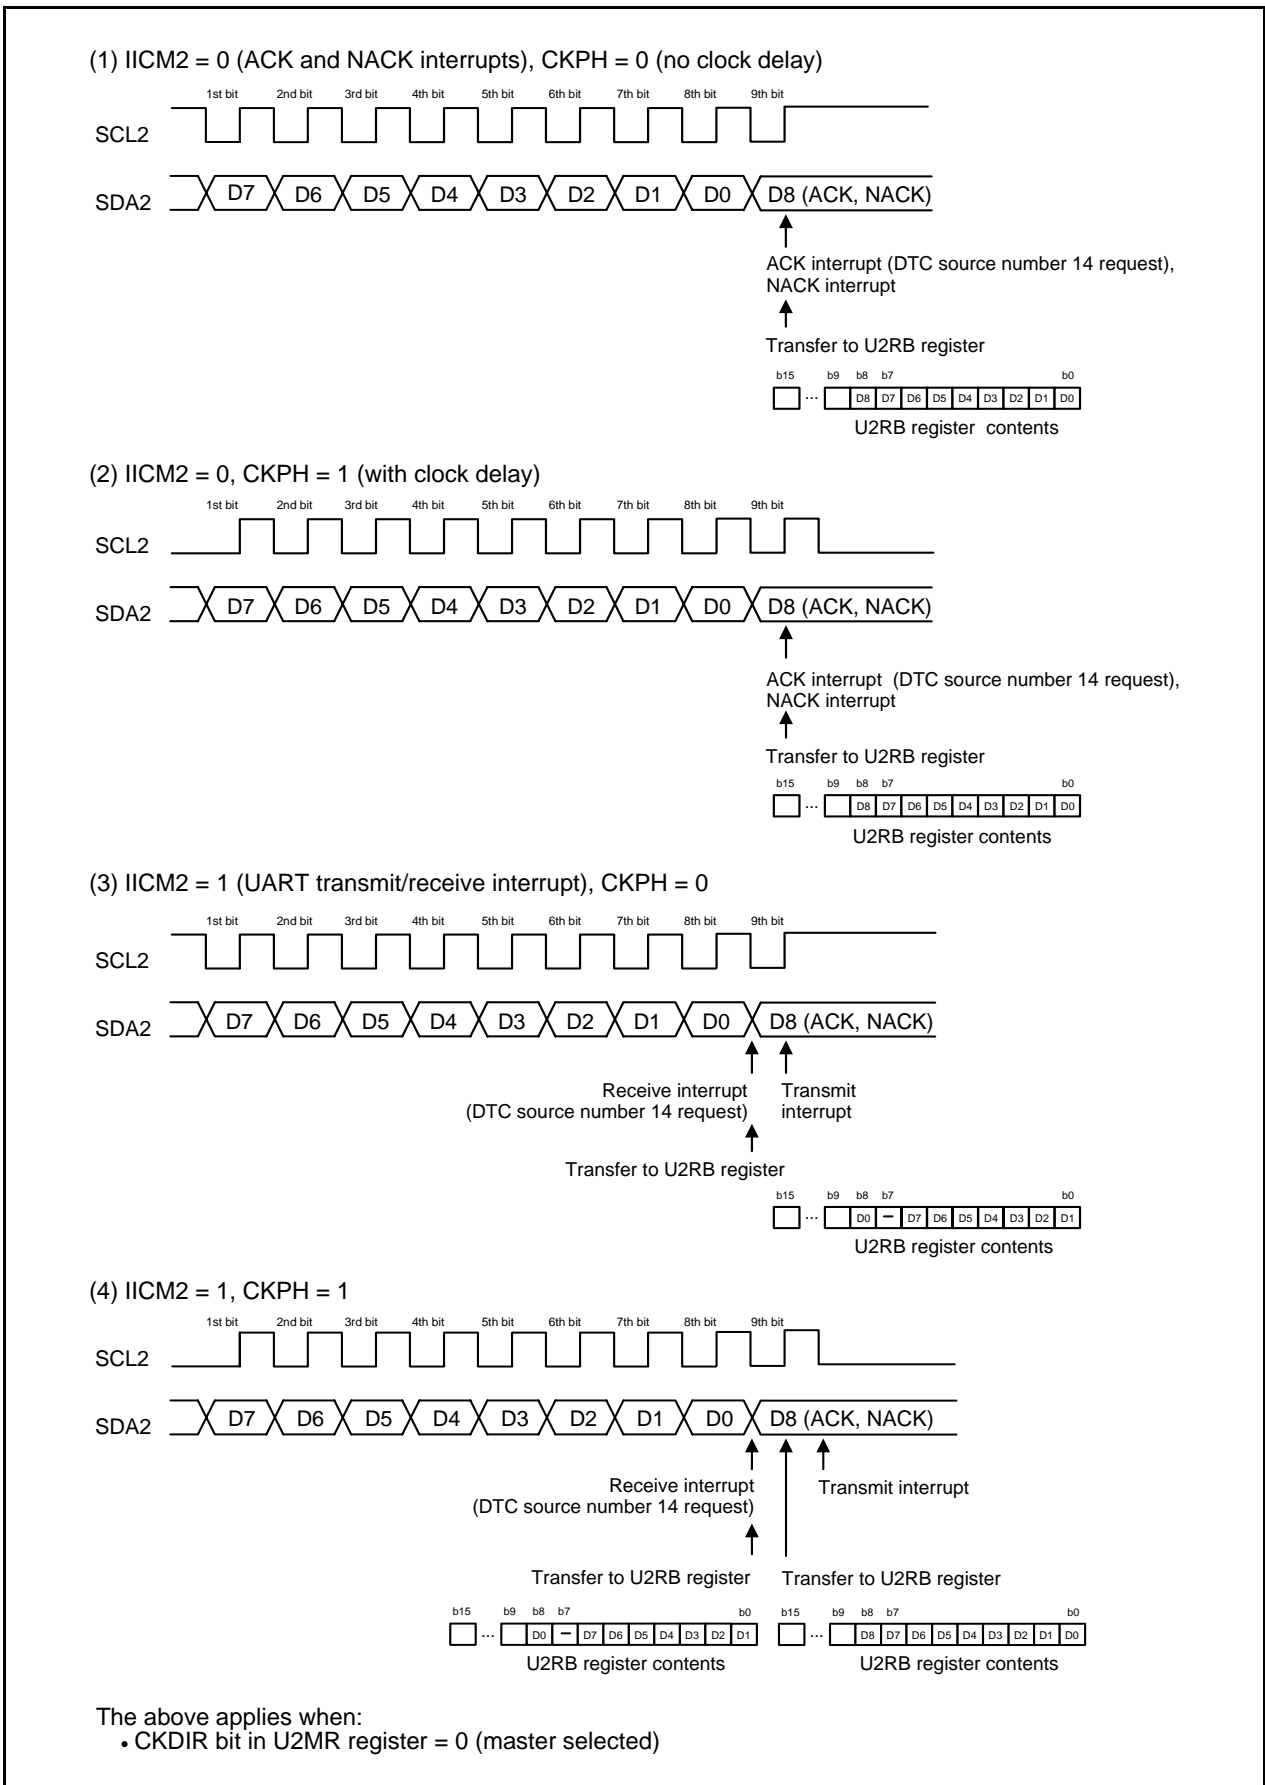

Figure 23.15 Transfer to U2RB Register and Interrupt Timing
6. Refer to **Figure 23.15 Transfer to U2RB Register and Interrupt Timing**.
The transfer clock is used to transmit and receive data as is shown in **Figure 23.15 Transfer to U2RB Register and Interrupt Timing**.